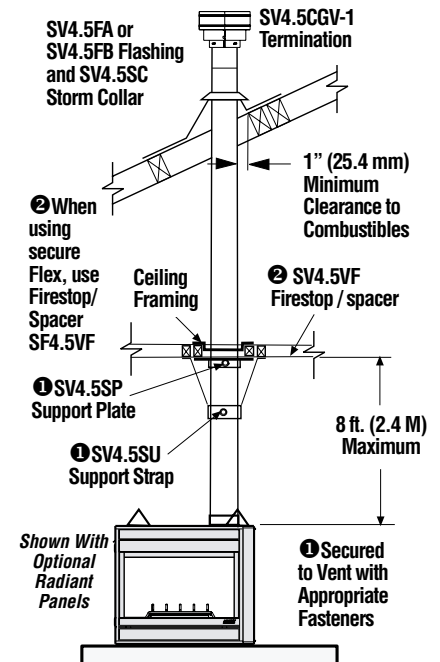

Figure 29
D. Install firestop/spacer at ceiling (Figure 29) - When using Secure Vent, use SV4.5VF firestop/spacer at ceiling joists; when using Secure Flex, use SF4.5VF firestop/spacer. If there is living space above the ceiling level, the firestop/spacer must be installed on the bottom side of the ceiling. If attic space is above the ceiling, the firestop/spacer must be installed on the top side of the joist. Route the vent sections through the framed opening and secure the firestop/spacer with 8d nails or other appropriate fasteners at each corner. **Remember to maintain 1" (25 mm) clearance to combustibles, framing members, and attic or ceiling insulation when running vertical chimney sections. Attic insulation shield (96K94) may be used to obtain the required clearances indicated here. See installation accessories tables on pages 38 and 39.**
E. Support the vertical vent run sections - **Note** - Proper venting support is very important. The weight of the vent must not be supported by the fireplace in any degree. Support the vertical portion of the venting system every 8 feet (2.4m) above the fireplace vent outlet. One method of support is by utilizing field provided support straps (conventional plumber's tape). Secure the plumber's tape to the framing members with nails or screws. Loop the tape around the vent, securing the ends of the tape to the framing. If desired, sheet metal screws #6 x 1/2" length may be used to secure the support straps to the vent pipe. Refer to **Figure 29**.